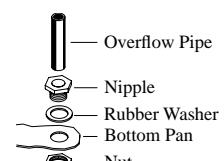

Fig. 6
- Install overflow assembly.** Place drain nipple through the hole in the pan, with the rubber washer between the pan and the head of the drain nipple (Fig. 6). Screw on nut and draw up tight against bottom of pan. Insert the overflow pipe in the nipple to retain water. The overflow pipe may be removed to drain the pan when necessary. A garden hose may be screwed on the drain nipple to drain water away from your unit.